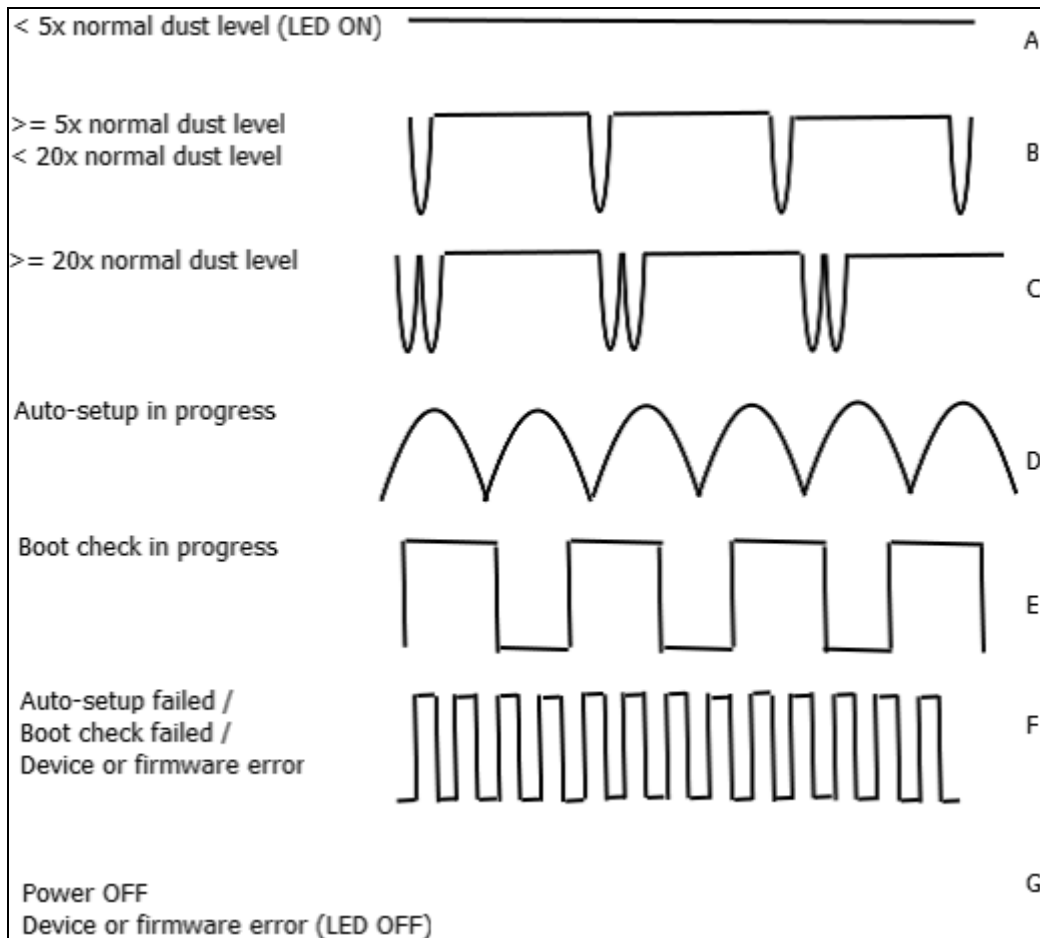

Figure 11 Description of Snifter mA+ RF cover illumination sequences.
- 1.1 by connecting the automatic setup signal (green wire) to the V+ signal (wire) for a period of 1 second. The automatic setup will initiate and the front panel light will start to blink slowly (sequence D in Figure 11 Description of Snifter mA+ RF cover illumination sequences.).